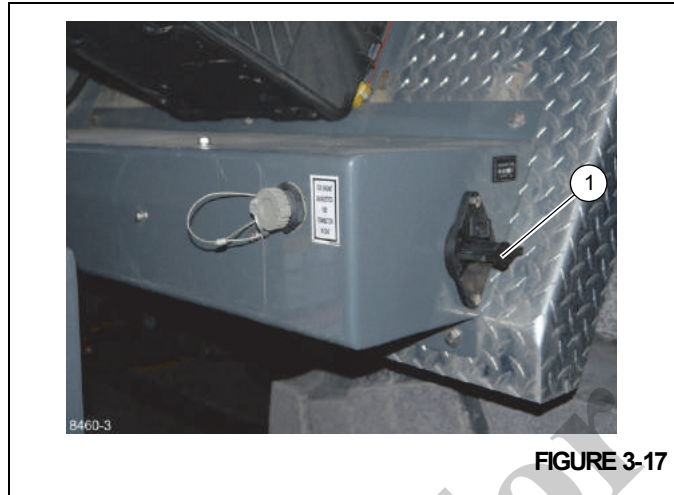

FIGURE 3-17
Ensure battery disconnect switch handle (1) (Figure 3-17) is in the ON position